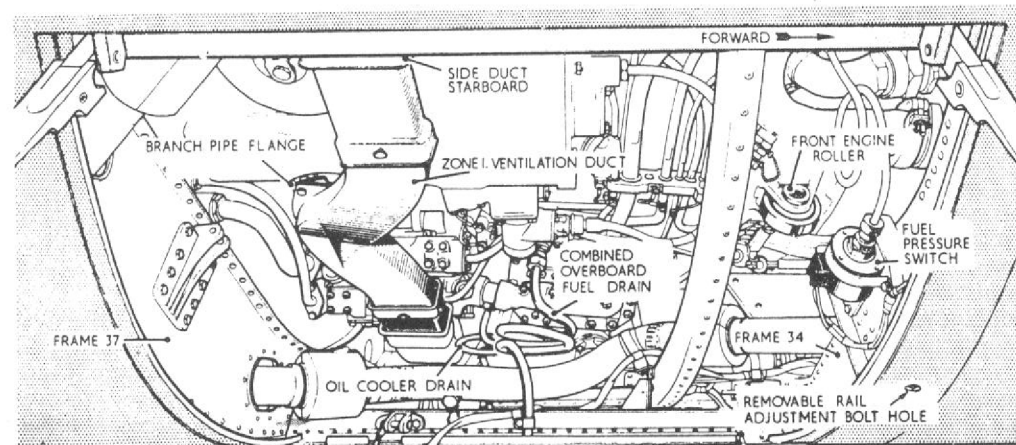

Fig. 9. Engine access door
Engine access door (fig. 9)
- ◀ (4) The pipe to the fuel pressure switch (fig.9), must be examined and refitted as described in para.28. ▶
- (5) It is essential that "Priming the fuel system" and "Fuel drainage check" (fail-safe) checks described in Appendix 1, be carried out after each engine removal, whenever the starter is changed, or where there has been any disturbance of the components of the starter fuel system.
- (6) Before attempting to start the engine, check that the following pipe connections are tight:—
Pipe to the fuel pressure switch (fig.9)